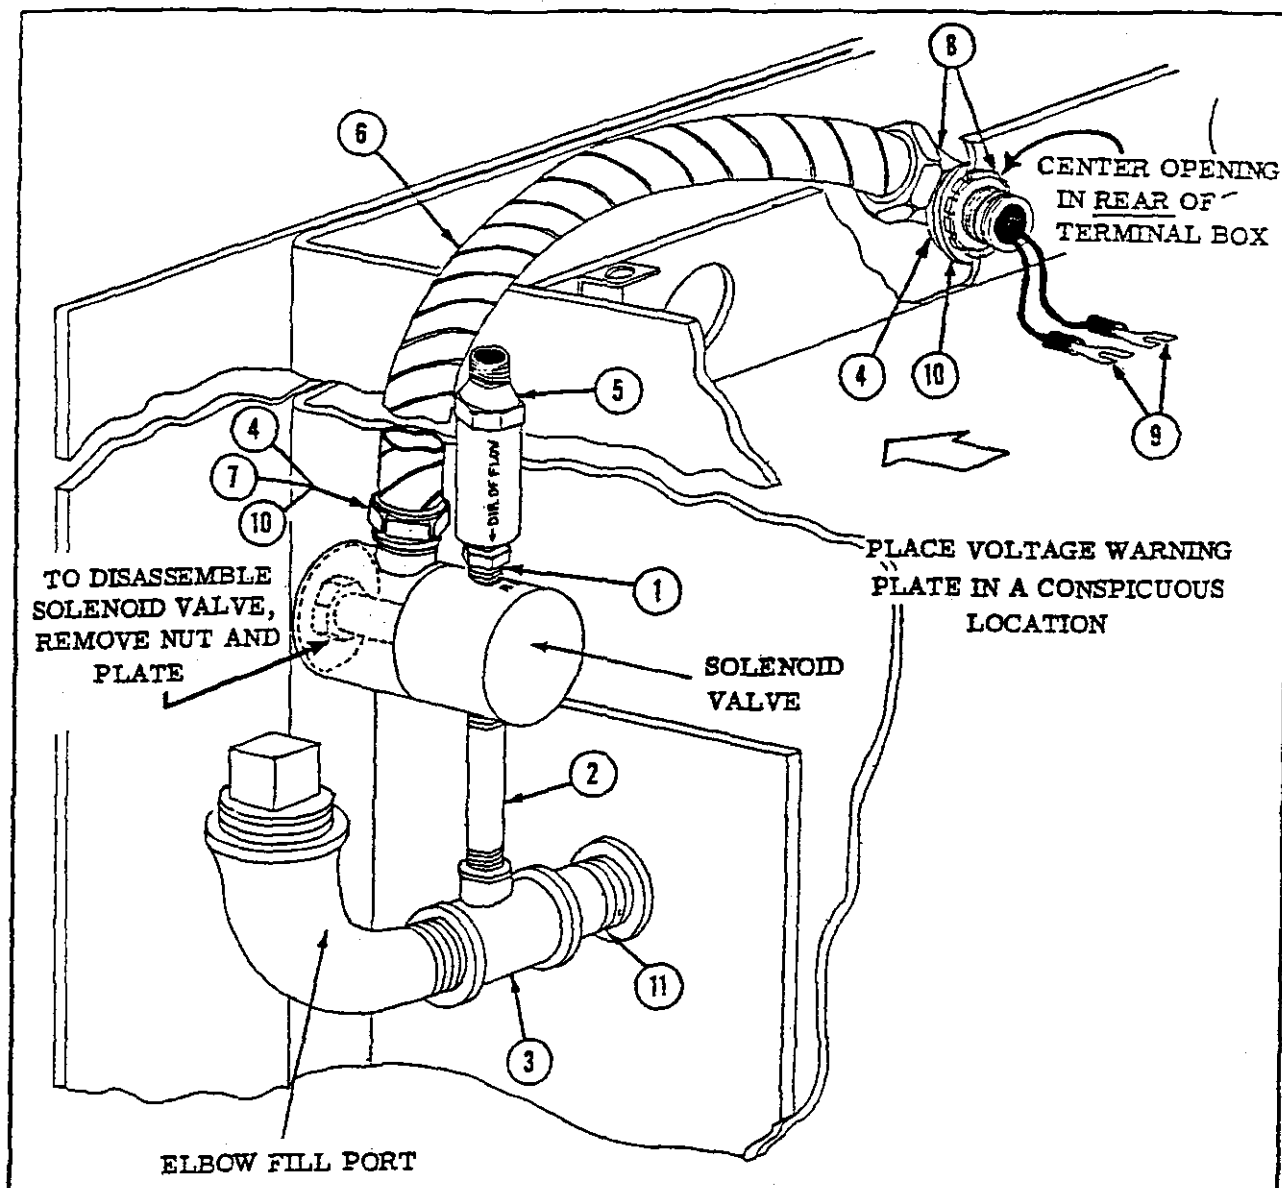

Figure 3. 385789, 385790-A1 and 385790-B1 Hi-Lo Refill Switch Kit Installation
13. Install Nipple **[11]** in open port on the left side of Reservoir and tighten. (See Figure 3)
- a. Remove the nut and I.D. plate from the rear of 383647 or 383647-1 Solenoid Valve supplied with the 385790-A1 or 385790-B1 Kits. Remove electrical leads, fitting, coil, and coil cover body from Valve body. (See Figure 3)
- c. Fit Tee, Nipple, and Solenoid Valve body, as a unit, to Nipple **[11]**. Secure parts vertically aligned to Reservoir. (See Figure 3)
- b. With Solenoid Valve coil housing to the rear and electrical fitting to the top, fit Solenoid Valve, Nipple, and Tee, as a unit, to Nipple [11]. Secure parts vertically aligned to Reservoir. (See Figure 3)
18. Guide leads through Ferrule [4] and Gasket [10]. Fit Connector, Ferrule, and Gasket to center opening on top rear of Terminal Box and secure. (See Figure 3) Attach two Insulated Terminals [9] to the leads.